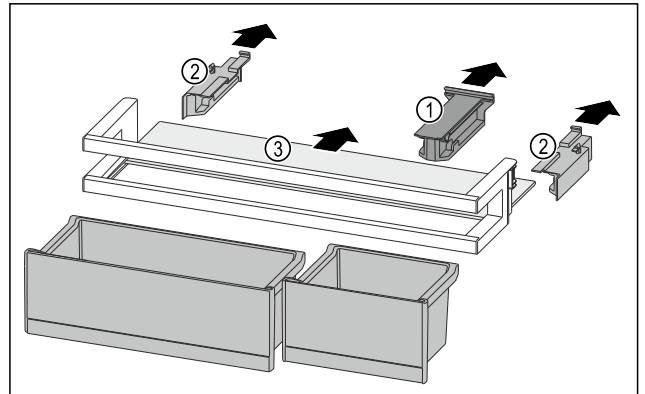

Fig. 146
- ▶ Pull off the holding part Fig. 146 (1).
- ▶ Pull off the side parts Fig. 146 (2).
- ▶ Remove the shelf Fig. 146 (3).